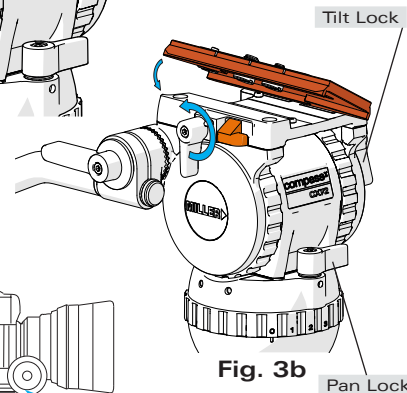

Fig. 3b
- 2.3 Tighten PAN/TILT LOCKS, mount the VERSA CAMERA PLATE to the PLATFORM non-locking side first. The side load lock mechanism will capture camera plate (distinct click sound will be made when VERSA CAMERA PLATE is retained). The VERSA CAMERA PLATE will be able to slide freely (100mm) until SLIDE LOCK LEVER is tightened. (Fig. 3b).